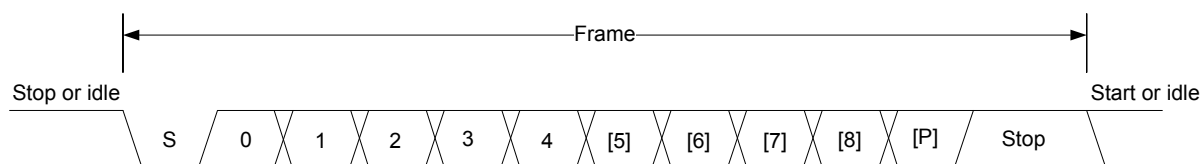

Figure 17.2. USART Asynchronous Frame Format
The frame format used in asynchronous mode consists of a set of data bits in addition to bits for synchronization and optionally a parity bit for error checking. A frame starts with one start-bit (S), where the line is driven low for one bit-period. This signals the start of a frame, and is used for synchronization. Following the start bit are 4 to 16 data bits and an optional parity bit. Finally, a number of stop-bits, where the line is driven high, end the frame. An example frame is shown in Figure 17.2 USART Asynchronous Frame Format on page 518.